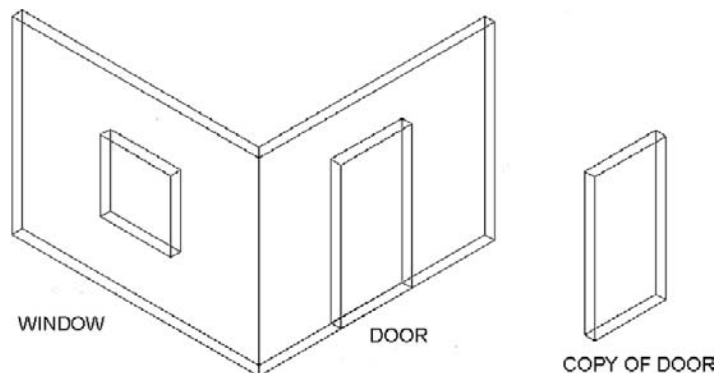

FIGURE 24.14
- Step 5.** After copying the door, insert it carefully into the wall, making sure it is lined up correctly (midpoint of bottom front of door to midpoint of bottom front of wall). Then, insert the window in a similar manner and raise it up (using Ortho) to roughly the halfway point in the wall. You may have your own method of doing this as well, but either way, Figure 24.14 shows what you should have as a result.